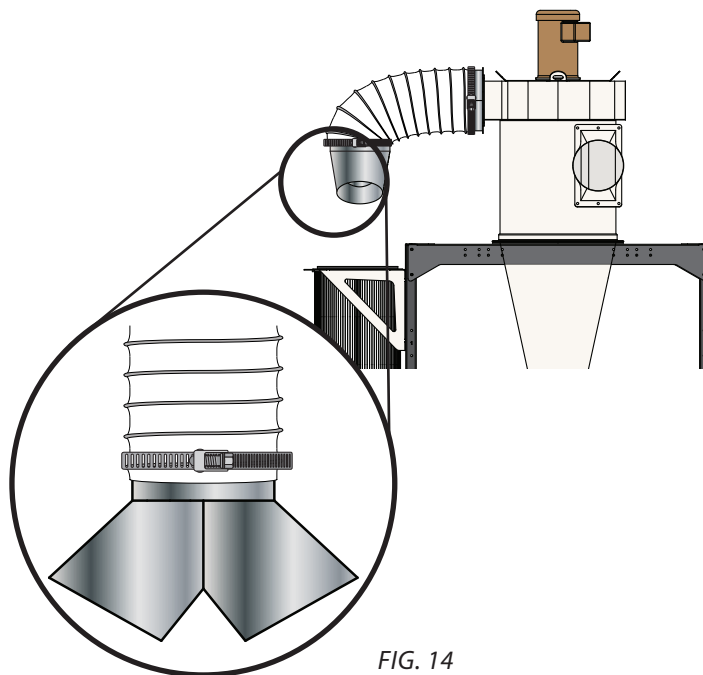

FIG. 14
Attach 12x10x10" Pants Wye (I) to the 12" Diameter Flex Hose (G) and secure it in place with the Clamp Band (H) [FIG. 14].